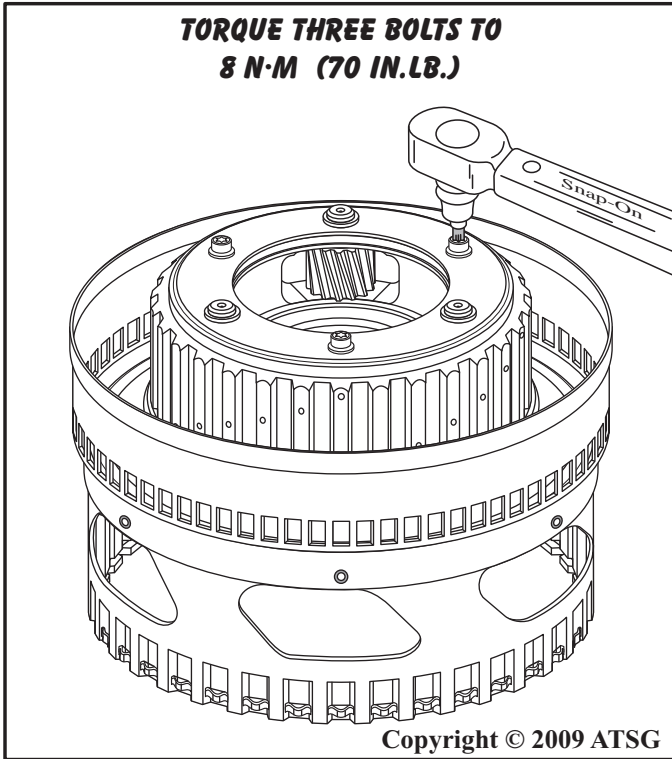

Figure 114
31. Torque front planetary carrier retaining bolts to 8 N·m (71 in.lb.), as shown in Figure 114.